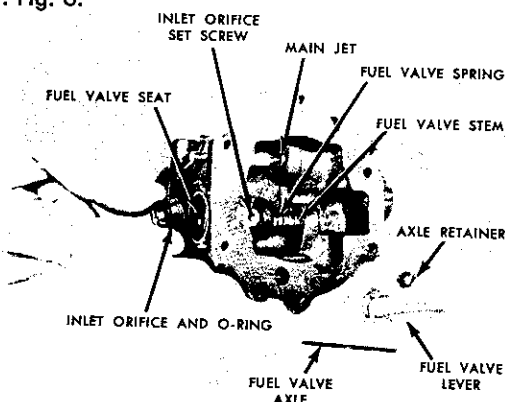

FIG. 7
11. Remove inlet orifice. Orifice is secured in position with 8-32 Allen Set Screw. Loosen this set screw before attempting to remove inlet orifice. Fig. 7.
12. Remove inlet valve stem and spring. Fig. 7: